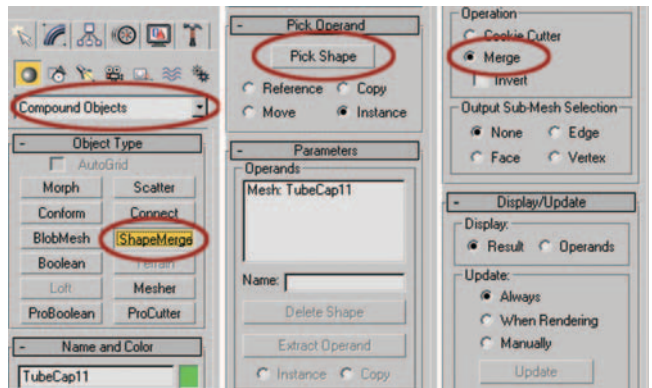

Figure 4.14 Important ShapeMerge options highlighted.
9. Under the Geometry rollout, pick Compound Objects (Figure 4.14).
10. Click the ShapeMerge button to bring up the list of options (Figure 4.14).
11. Set the Operation to Merge (Figure 4.14).
12. Click the Pick Shape button (Figure 4.14).